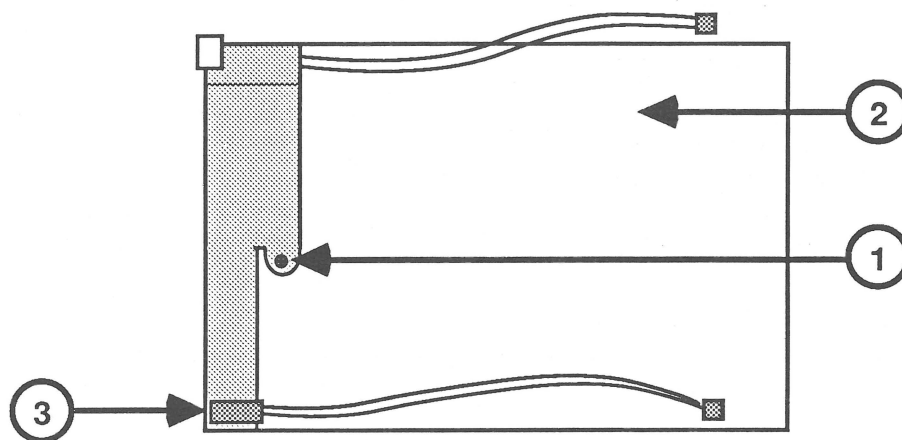

FIGURE 14
2. Remove the screw (Figure 14, #1) that secures the metal bracket to the case top (Figure 14, #2).
3. Lift the LED assembly (Figure 14, #3) off the holding tabs.
1. Position the LED assembly (Figure 14, #3) over the holding tabs.
2. Replace the screw (Figure 14, #1) that secures the metal bracket to the case top.